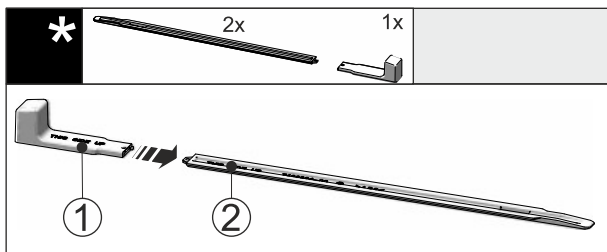

Fig. 52
- Attach the installation handle Fig. 52 (1) to the levelling rail Fig. 52 (2).